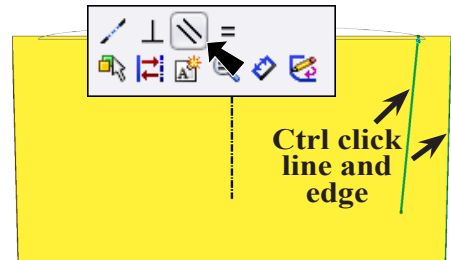

Fig. 36
Step 12. **Click line and Ctrl click right edge of body**, **Fig. 36**. To Ctrl click, click line, then hold down Ctrl key and right edge of body.
Step 13. Click **Make Parallel**  on the Content menu, **Fig. 36**.